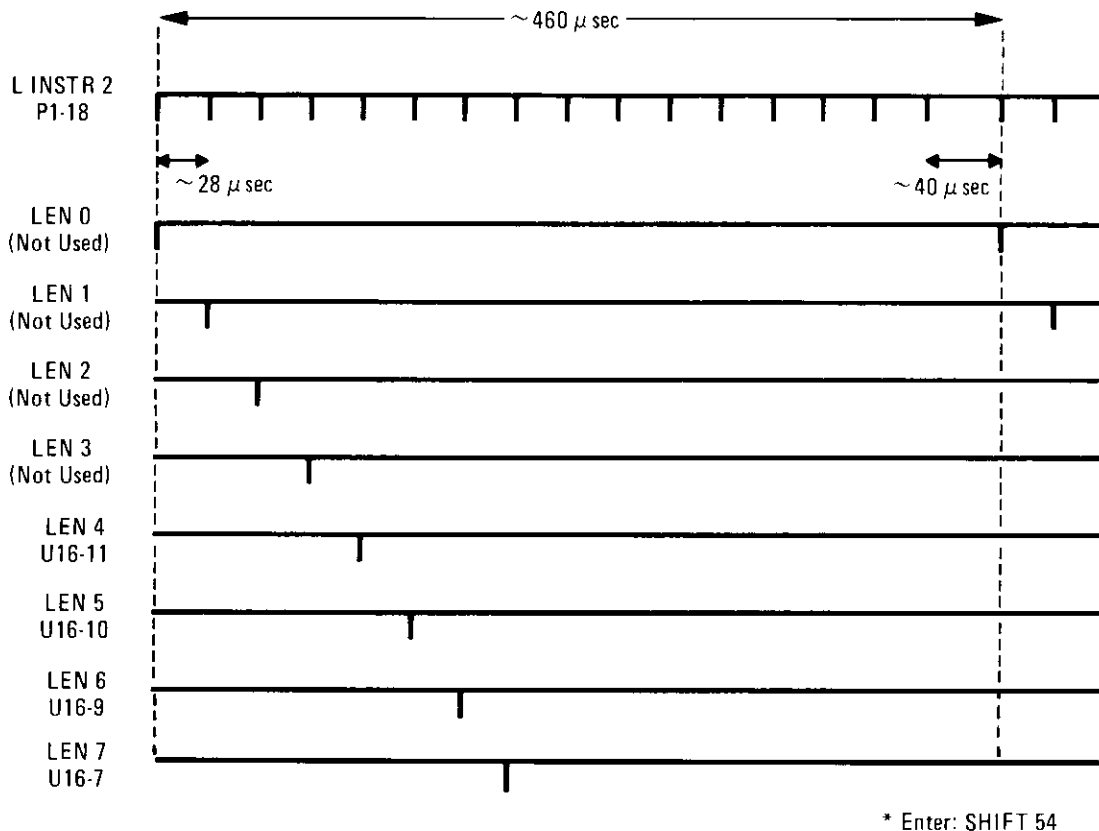

Figure 8-66. A8 Address Decoder Timing Diagram
2. If L INST2 is functional, check each of the LENn lines (U16) for the pulses shown in Figure 8-66. If these are incorrect, but the address lines show activity, replace U16. If the address lines seem locked high or low, troubleshoot the address buffer on the A3 assembly.